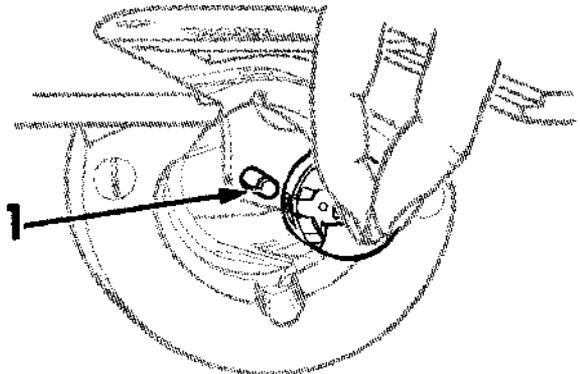

FIG. 19.
- Open bobbin case latch as shown in Fig. 19 and withdraw bobbin.